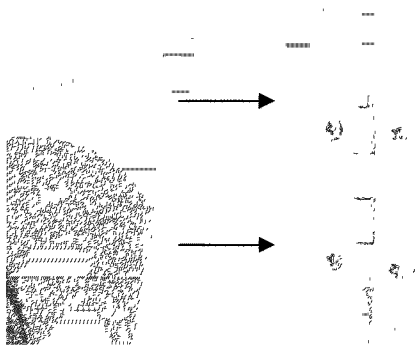

Figure 2
2 Begin removing the four (4) screws that attach the hinge to the front panel (Figure 2) For best results, start by only removing one screw per hinge. Then only loosen the two remaining screws while firmly holding door to prevent damage to hinge, front panel or door. After the remaining screws are loosened, continue to remove all